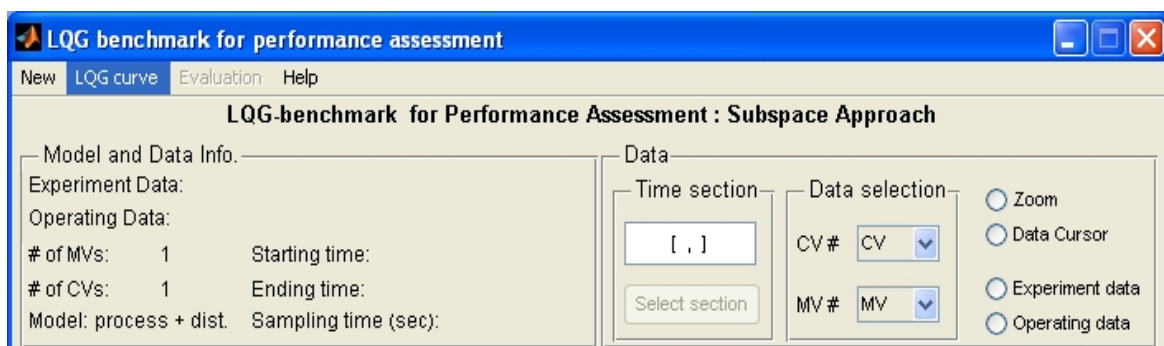

Figure 3: TF model loaded in
| Figure 3: TF model loaded in.....  | 3  |
- 8) To perform one of the tasks (a) – (d) of section 5, use the “LQGcurve” or “Evaluation” menu to upload model or data. When model or data is uploaded, the corresponding information about it will be shown in the ‘**Model and Data Info.**’ panel (see Figure 3 and 4).